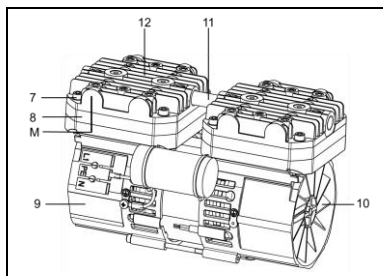
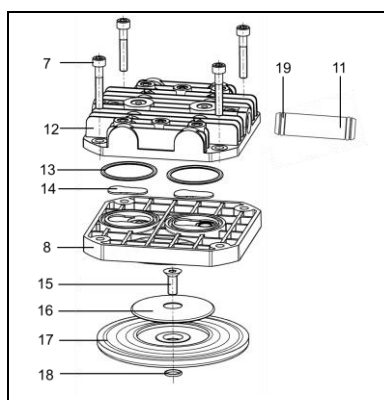

Fig. 6: Pump N 936.3
Fig. 7: Pump head (exploded drawing, symbolic)
** according to Fig. 7
Mark the position of head plate (Fig. 6/12), intermediate plate (8) and pump housing (9) relative to each other by a drawing line (M) with a felt-tip pen. This helps avoid incorrect assembly later.
1. Turn the fan (Fig. 6/10) to bring one diaphragm (Fig. 7/17) to top dead centre.
2. Unscrew the screw for retainer plate (Fig. 7/15), and take off the retainer plate (16).
3. Remove diaphragm (Fig. 7/17) from reception.
5. Turn the fan (Fig. 6/10) until the connecting rod (connecting part between motor shaft and diaphragm) is at top dead centre.
6. Replace the O-ring below the retainer plate (Fig. 7/18) with a new one.
7. Lay in the new diaphragm (Fig. 7/17); then apply the retainer plate (16) and tighten it to the connecting rod with the screw for retainer plate (15) (tightening torque: 9 Nm).
- i** The self-locking screw for retainer plate (15) can only be used once.
1. Pull the connecting tube(s) (Fig. 7/11) out of one of the two head plates (12).
2. Separate the head plate (Fig. 7/12) from the intermediate plate (8).
3. Remove the valves (Fig. 7/14) and O-rings (13) from the intermediate plate (8).
Lay the new valves (Fig. 7/14) and O-rings (13) in the recesses in the intermediate plate (8).
6. Place the head plate (Fig. 7/12) on the intermediate plate (8), in the position indicated by the marking (Fig. 6/M).
7. Check that the head plate (Fig. 7/12) is centred by moving it gently sideways.
1. Push the connecting tube(s) (Fig. 7/11) into the hole in the head plate (12).
- i** Ensure that the O-rings (19) lie in the grooves of the connecting tube(s).
2. Place the two pump heads that are joined by the connecting tube(s) (Fig. 7/11) on the housing according to the markings (Fig. 6/M).
Gently tighten the screws (Fig. 7/7) , evenly and diagonally.
4. Turn the fan (Fig. 7/10) to check that the pump rotates freely.
5. Now tighten at both pump heads screws (Fig. 7/7) diagonally (tightening torque: 6 Nm).